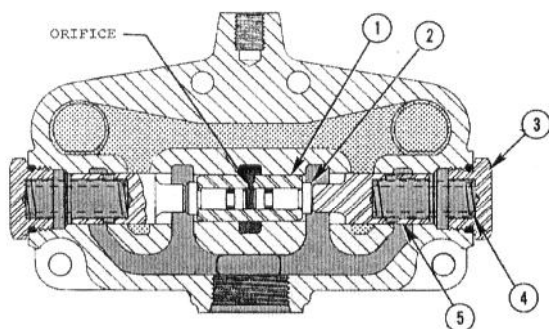

Fig. 17 — Cutaway Illustration of Anti-Cavitation Return Plate
3. Service the anti-cavitation return port plate as follows ... see Figs. 17 and 18.